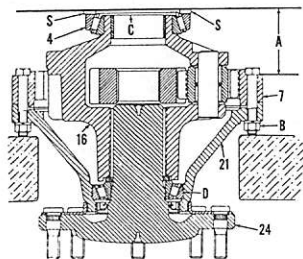

Fig. 245—Using spacers, a straightedge and inside micrometer to determine bearing adjustment as outlined in paragraph 216.
Remove wheel axle and planet carrier assembly as outlined in paragraph 222. Remove bearing cup (4) from axle housing (1). Using four bolts of the correct length, bolt planetary ring gear (7) to drive cover (21) as shown in Fig. 245. Support the assembly on drive cover so that wheel axle (24) does not touch, allowing outer carrier bearing (D—Fig. 245) to seat.